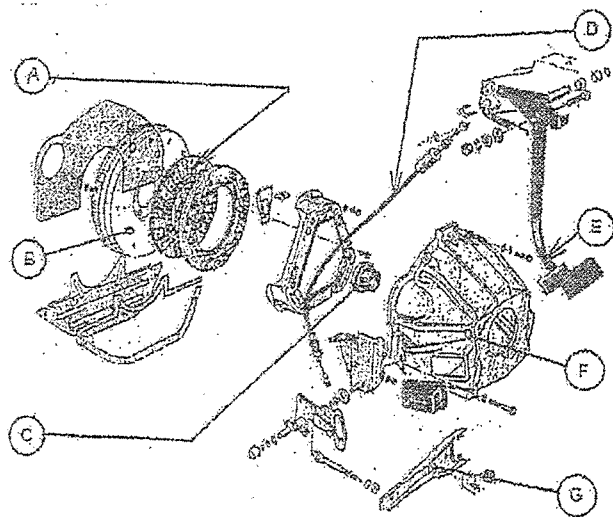

FIGURE 3
- 2.3 FIGURE 3 on DIAGRAM SHEET 2 (attached) shows a sketch of the parts of clutch set-up.